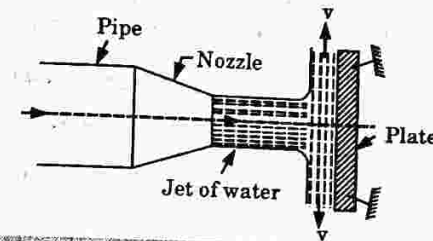

Fig. 4.3.1. Force exerted by jet on vertical plate.
- Consider a jet of water coming out from the nozzle, strike a flat vertical plate as shown in Fig. 4.3.1.